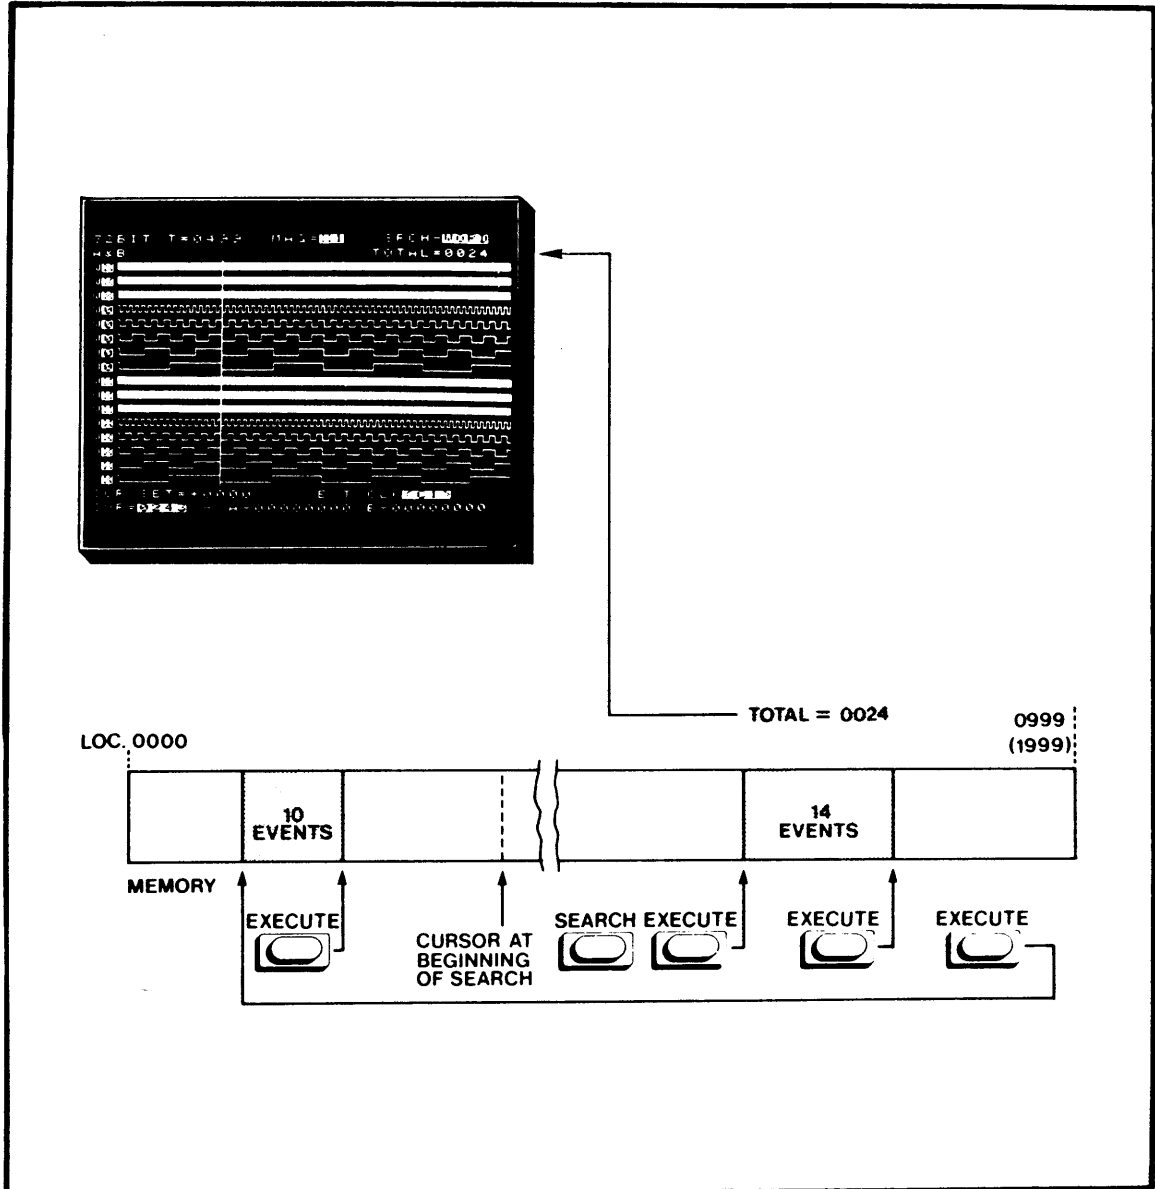

FIGURE 5-35. EXECUTING SEARCH IN TIMING DIAGRAM
**5.5.3.5 Interpreting S = R, S ≠ R, and WORD SEARCH Results.** See Figure 5-35 for reference in the following discussion. At every true event of the programmed mode, an internal counter is incremented beginning at 0, and is shown in the "TOTAL" field heading. After the search is executed, the cursor moves automatically to the beginning position of the next search event in the programmed mode. The automatic direction of cursor movement is towards the higher number in memory location. As with the Memory Functions, differences of data are also shown in inverse video in the Binary Information field. An indication of the present cursor position is shown in the "SEARCH EVENT" field heading as well as in the CUR = XXX field.